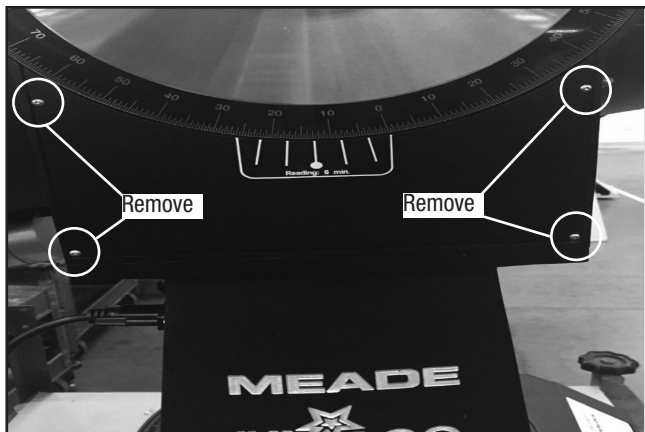

Fig. 39: Remove the 4 screws to access the StarLock and focuser/12v connectors.
5. The last plate to remove is the left Dec housing cover shown in Fig. 39. Removal of this plate will provide access to route and plug in the two wire harnesses. To open the left Dec housing cover, remove the 4 screws shown in Fig. 39.